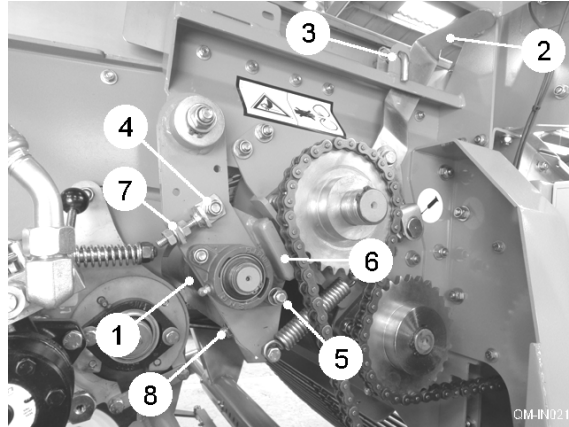

Fig. 13
The rubber covered haulm roller (item 1, fig. 13) is positioned immediately behind the main web. The roller is chain driven from the main web drive and contra-rotates against the web to form a pinch point to extract the haulm. The roller is held in position against the web by spring pressure and the gap between the web and roller can be adjusted. A wider setting is likely to take out small potatoes. The optimum setting is to have the haulm roller running just clear of the web bars so as to prevent vibration and give maximum grip to extract the haulm.
The handles (item 2, fig. 13) are used to release the spring tension if a blockage occurs and before carrying out any adjustments to the roller setting. The handles are operated by pulling back so the retaining pin (item 3, fig. 13) can be removed, then carefully allowing the handle to travel forward, thus releasing the spring tension. Always reset the handles before commencing work.
The handles (item 2, fig. 13) have considerable spring pressure acting on them. Operate with care.
To adjust the gap, using the handle release the spring tension and slacken the bolts (item 4 & 5, fig. 13) locking the bump stop mounting (item 6, fig. 13). Adjust the setscrew (item 7, fig. 13) in or out to achieve the desired new position. Repeat on the opposite side of the machine. Make sure that both ends of the roller are set to the same position to keep the roller parallel to the web. Finally, retighten all nuts and bolts and reset the spring tensioner handles (item 2, fig. 13).
The haulm extraction roller is fitted with a scraper (item 8, fig. 13) which should be closely adjusted to remove loose soil from the roller.